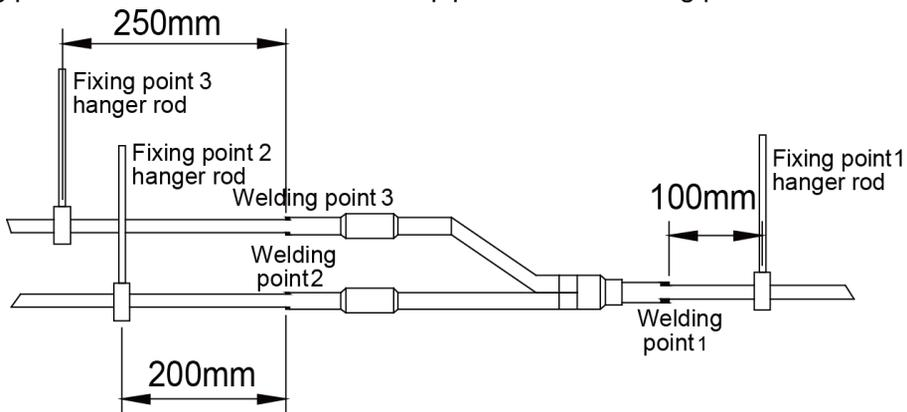

Fig. 4.3.6
(3) There must be three fixing point for both horizontal and vertical installation of the Y-type manifold. See Fig. 4.3.6.